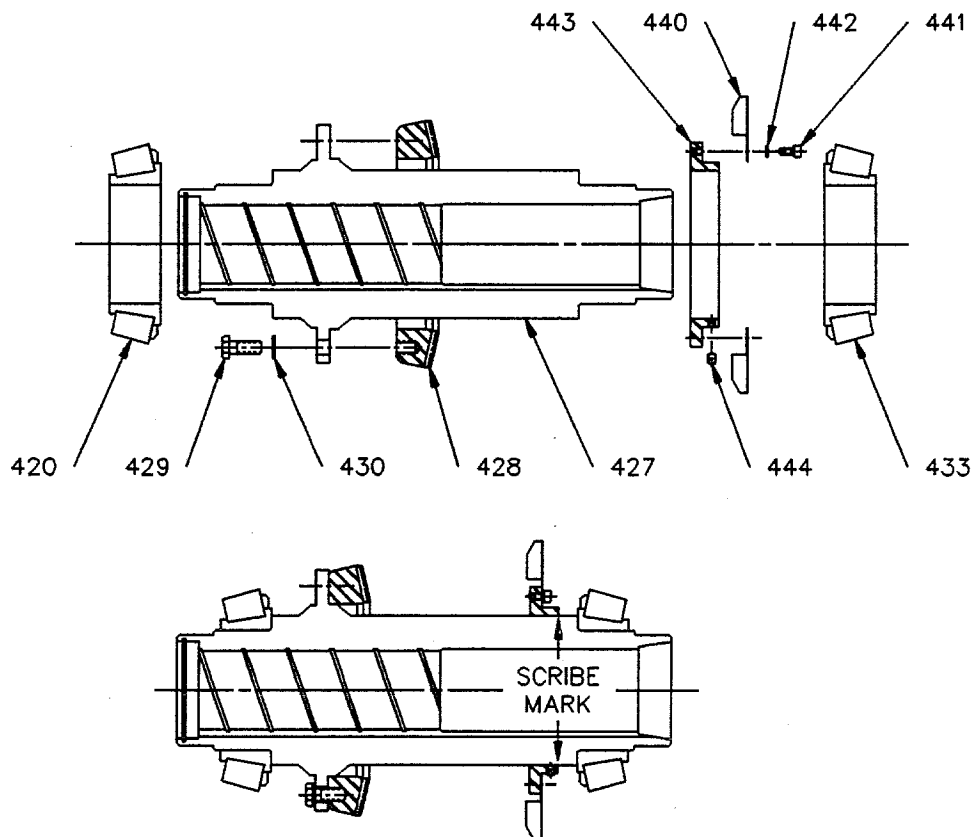

Figure 19: Hollow Shaft [426]
8. Using a paint stick, highlight the "X" match marks on the outside of spiral bevel gear [428] (*Figure 19, page 52*).